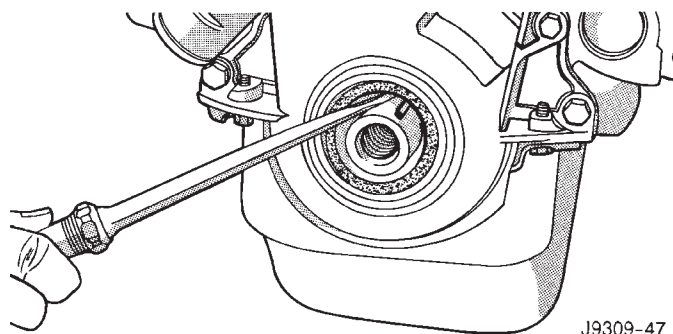

Fig. 23 Removal of Front Crankshaft Oil Seal
(1) Disconnect the negative cable from the battery.
(2) Drain cooling system (refer to Group 7, Cooling System).
(3) Remove the serpentine belt (refer to Group 7, Cooling System).
(4) Remove water pump (refer to Group 7, Cooling System).
(5) Remove power steering pump (refer to Group 19, Steering).
(6) Remove vibration damper.
(7) Remove fuel lines (refer to Group 14, Fuel System).
(8) Loosen oil pan bolts and remove the front bolt at each side.
(9) Remove the cover bolts.
(10) Remove chain case cover and gasket using extreme caution to avoid damaging oil pan gasket.
(11) Place a suitable tool behind the lips of the oil seal to pry the oil seal outward. Be careful not to damage the crankshaft seal surface of cover (Fig. 23).